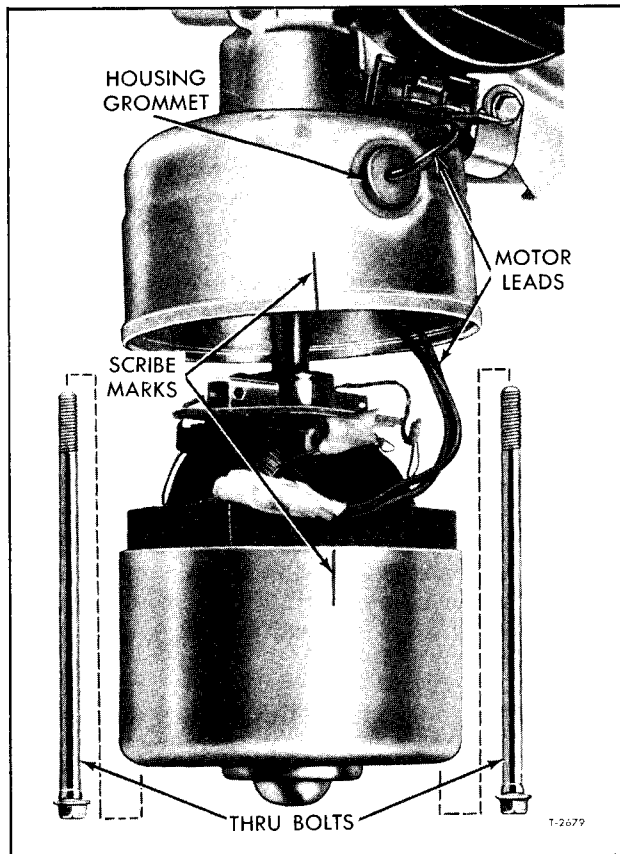

Figure 19—Separation of Wiper Motor End Cap from Housing
1. Scribe a reference line along side of casting and end cap to insure proper assembly (fig. 19).
2. Remove two motor thru-bolts (fig. 19) securing end cap to housing.
3. Feed exposed excess length of motor leads through the housing grommet and carefully back end cap with field assembly and armature away from casting (fig. 19).
9. Position armature worm shaft inside housing and, using scribed marks made during disassembly, align end cap and field assembly with housing (fig. 19).
11. Rotate end cap as required to align bolt holes and secure with thru-bolts (fig. 19). Refer to "Adjustments" in this section for end-play.